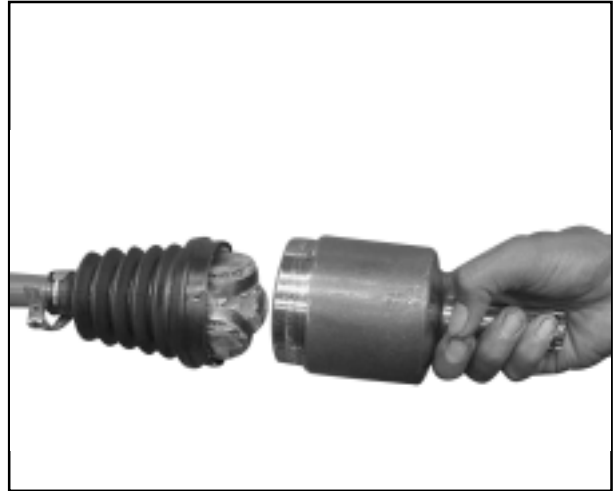

Fig. 10
4. Separate the housing assembly from the seal at large diameter as shown in Fig. 10. Slide the seal away from the joint along axle shaft.